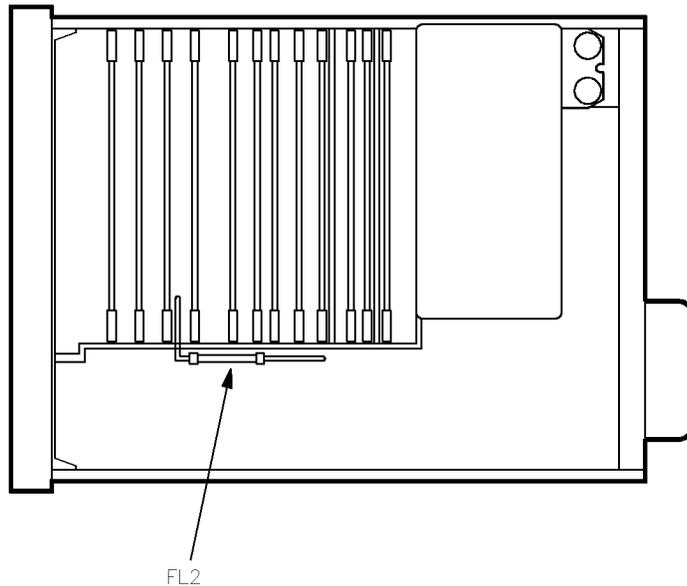

Figure 3-7. FL2 Location
1. Turn the synthesizer to standby. At FL2 (see Figure 3-7), disconnect the semi-rigid cable between FL2 and the A6 assembly.